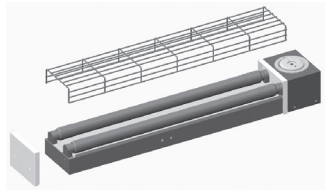

Figure 1
3. Remove the end cap and wire guard as shown in figure 1.
2. Remove the end cap and wire guard as shown in figure 1.